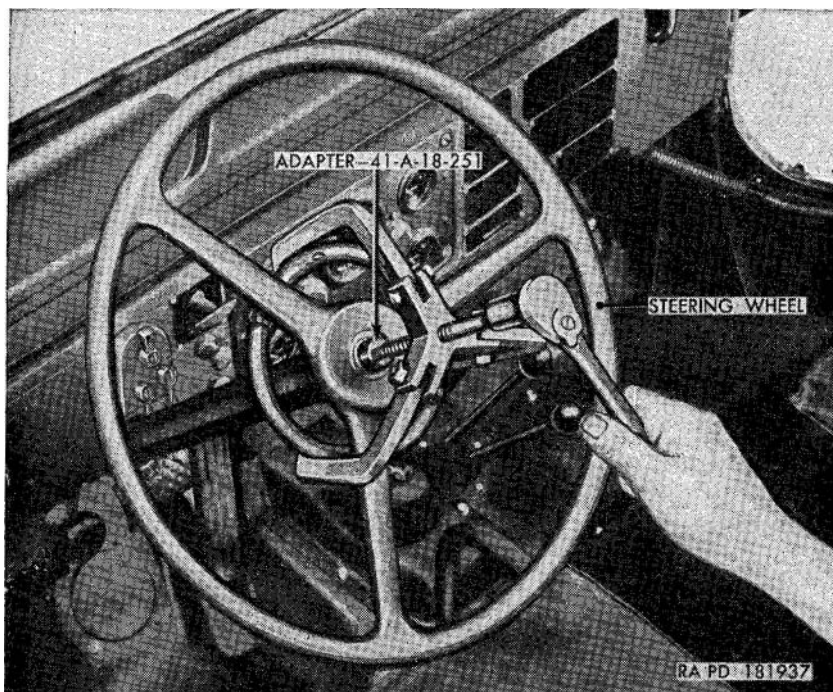

Figure 154. Removing steering wheel from steering gear shift, using puller and adapter-41—A-18-251.
- (1) Pry the horn button cap from the steering wheel nut.
- (2) Pull the horn button, with horn switch push rod, out of the steering gear shaft. Unscrew and remove the steering wheel nut from the shaft.
- (3) Using puller and adapter 41—A-18-251 (fig. 154), pull the steering wheel from the steering gear shaft.
- (1) Jack up the vehicle until the front tires are clear of the ground. Turn the steering wheel (*fig. 154*) to the right or left to position the wheels in a straightahead position. Mark the steering wheel at the top and place a mark on the windshield in line with the mark on the wheel.
- (2) Disconnect the drag link assembly from the Pitman arm (par. 227a(2) ).